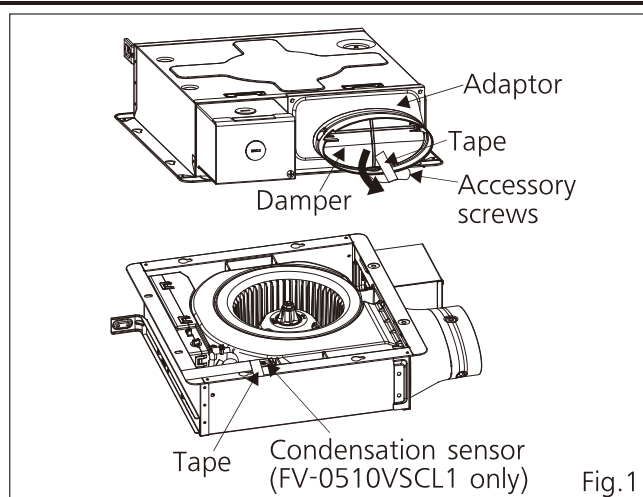

Fig.1
1.Before installation, please remove the tape which protects damper during shipping and accessory screws from adaptor and the tape which fixes condensation sensor (FV-0510VSCL1 only), then check that the damper can open and close smoothly. (Fig.1)
Please remove the tape on damper according to the direction of arrow in Fig.1, otherwise the damper may be pulled out.